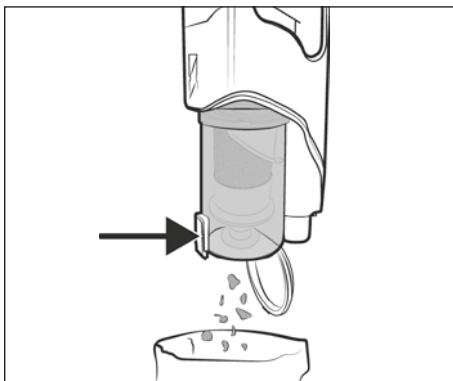

Fig. 19
- 2) Hold the dust container **7** in a waste bin and press the dust container lid release button **8**. The dust container lid **9** opens and the contents are emptied into the waste bin (see Fig. 19). Then close the dust container lid **9**.